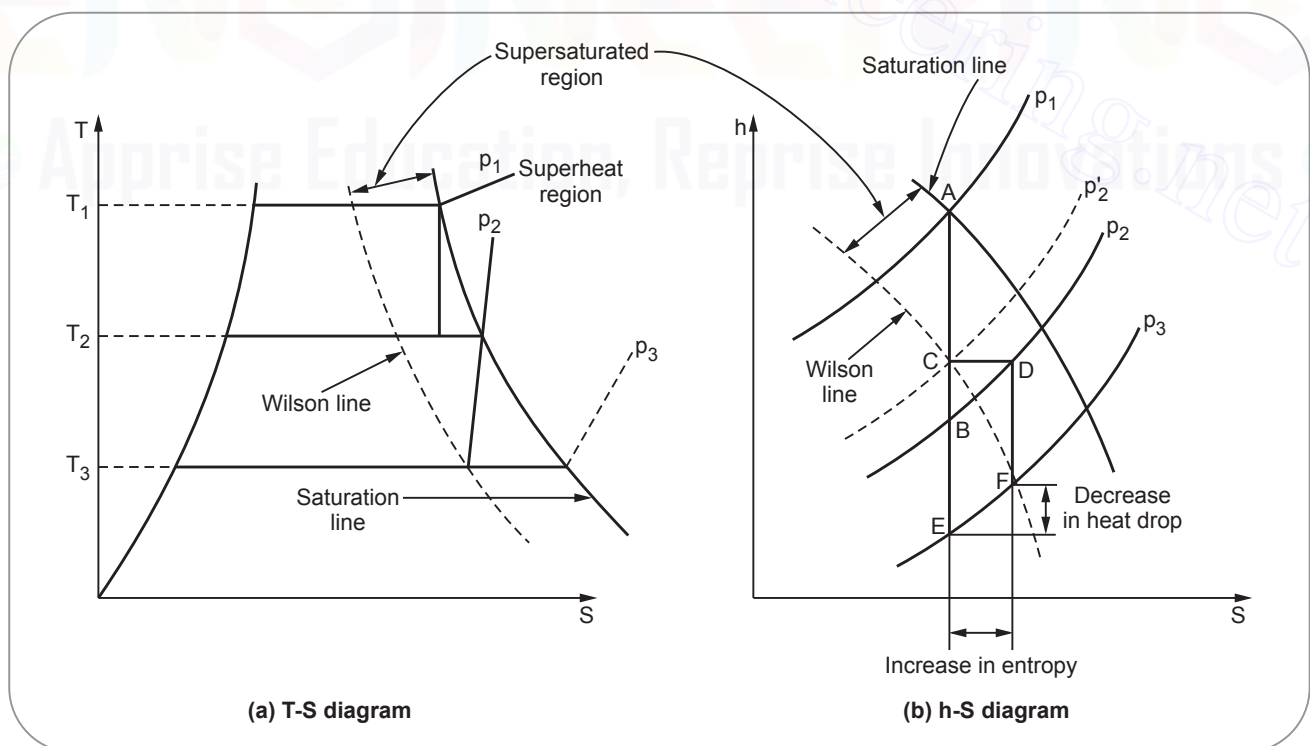

Fig. 1.4
- Experiments of supersaturated flow of steam have shown that there is a limit to which the supersaturated flow is possible. This limit is represented by “Wilson line” on T-S and h-s diagram as shown in Fig. 1.4 (a) and (b) respectively.
- In Fig. 1.4 (b) is shown the isentropic expansion of steam in nozzle. The point ‘A’ represents the position